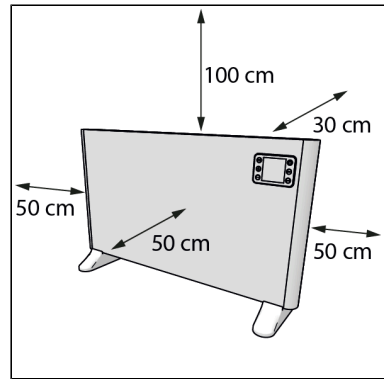

Figure 8.
5. Place the device with a minimum clearance distance (Figure 8) of: